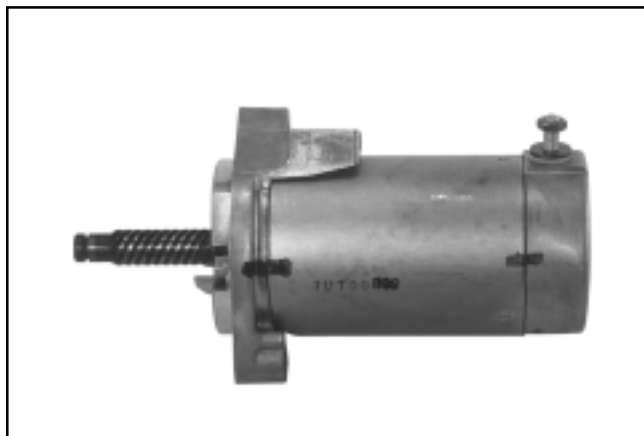

Figure 8-29. Match Marks for Reassembly.
3. Scribe or mark a small line from the starter frame to each end cap to serve as match marks for reassembly later. See Figure 8-29.